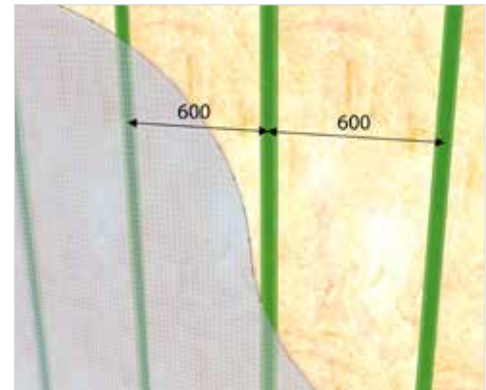

Fig.1: Temporary fixing with Procheck Multilap Tape
1. Apply single runs of Multilap Tape at equal centres (max. 600mm) to substrate/studs/fixing rails to provide a temporary fixing point (Fig.1).
1. Apply single runs of Procheck Multilap Tape at equal centres (max. 600mm) to substrate/studs/fixing rails to provide a temporary fixing point (Fig.1).
1. Apply single runs of Procheck Multilap Tape at equal centres (max. 600mm) to substrate/studs/fixing rails to provide a temporary fixing point (Fig.1,7).